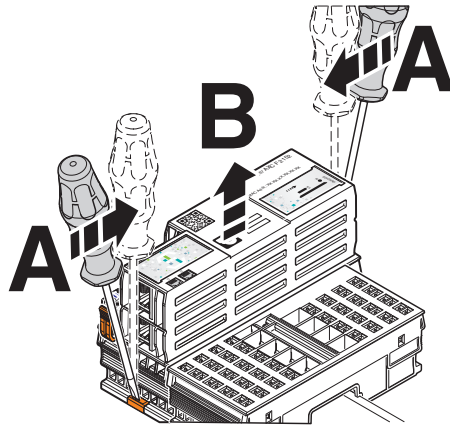

Figure 10-5 Removing the controller
- Insert a suitable tool (e.g., bladed screwdriver) into the upper and lower snap-in mechanisms (base latches) of the controller one after the other and release it (A in Figure 10-5).
- Remove the controller keeping it perpendicular to the DIN rail (B in Figure 10-5).